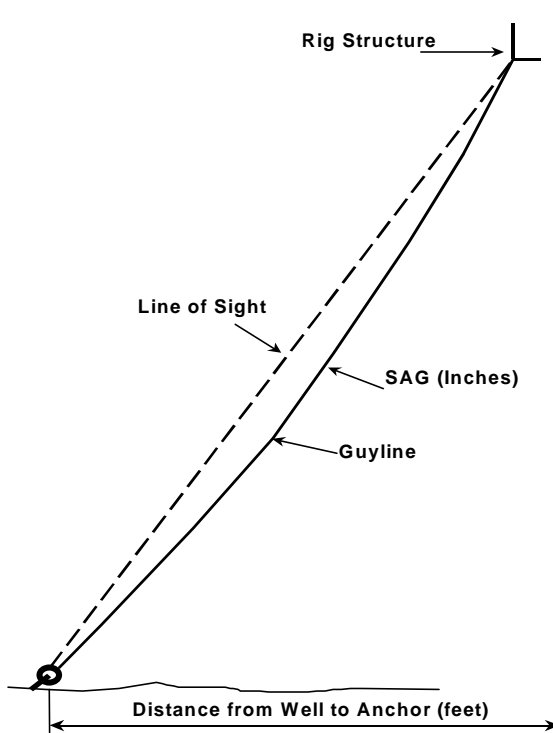

Figure 3
- The catenary or “SAG” in the guyline may be used to estimate proper pretension. See *Figure 3 and Table 3*.